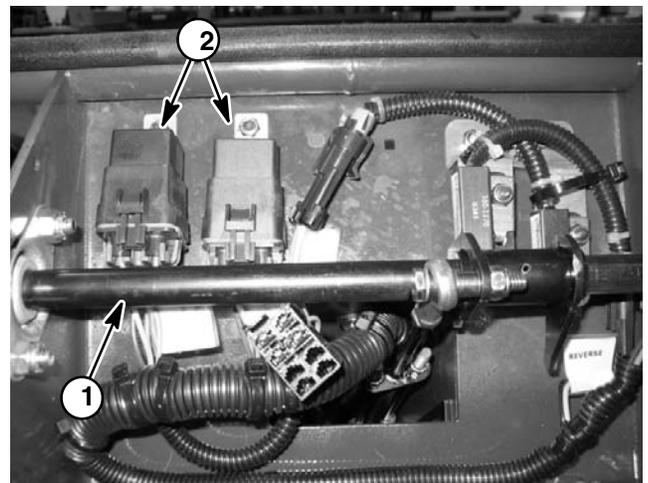

Figure 14
Six (6) relays are used on the ProCore 648. Four (4) of these relays are attached under the control panel next to the battery (Fig. 13): lockout relay, clutch relay, neutral switch (start) relay and lockout latch relay. The remaining two (2) relays are attached under the handle console (Fig. 14): neutral switch (latch) relay and latching relay. The six relays are identical. The relays are identified by a tag on the wire harness relay connector.